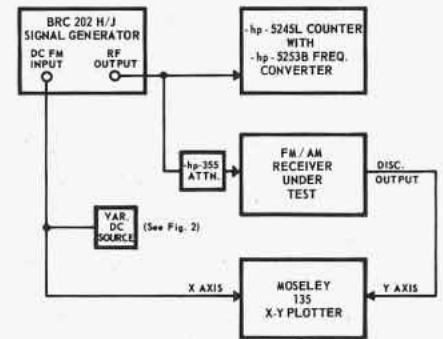
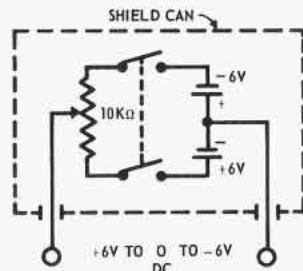
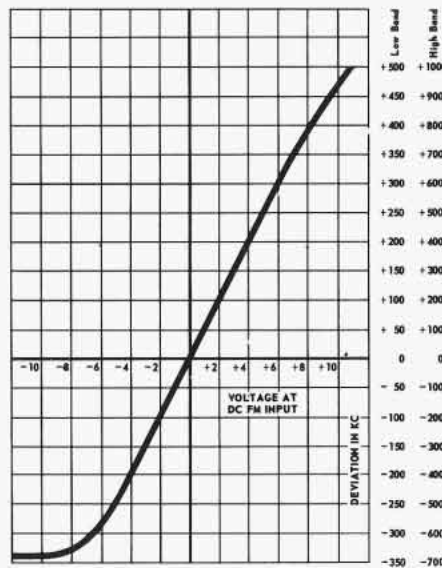
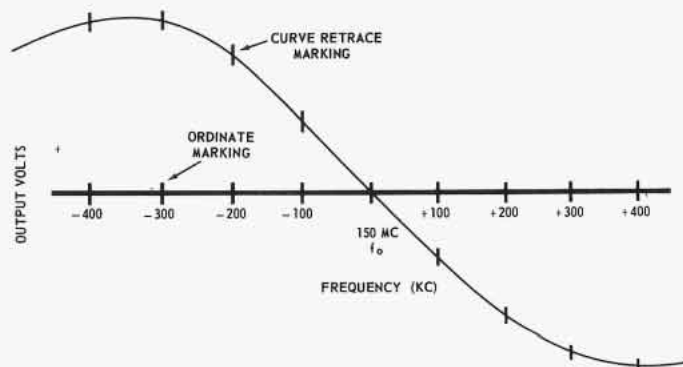

Figure 1. Setup for Checking Discriminator Output vs. Frequency
Figure 2. Variable DC Source Using Multi-turn Variable Potentiometer
Figure 3. DC FM Input Curve
Figure 4. Discriminator Output vs. Frequency Curve
The first tests to be discussed will be those tests which use a minimum of equipment; i.e., selectivity or bandwidth versus frequency and RF input level, and discriminator output versus frequency. If it is assumed that the receiver to be tested is in the range of the 202H and J, the connections and equipment are shown in Fig. 1. The Plotter may be a Moseley Type 2D, 135, etc. The Y axis input to the Plotter is connected to the AM detector, limiter grid, or discriminator output. The X axis input is connected to the variable dc source. The simplest form of variable dc is a multi-turn variable potentiometer of approximately 10,000 ohms and two 6-volt batteries connected as shown in Fig. 2. This supply will produce approximately 600 kc sweep on the
202H low band, and about 1200 kc on the 202H high band and the 202J. Reference to the dc FM input curve (Fig. 3) will indicate how to optimize this sweep if necessary. (A function generator, such as the -hp-202A, could be used in place of the dc source described above.) With the equipment connected as shown in Fig. 1, typical curves, such as those shown in Figs 4 and 5 can be plotted.
The horizontal X axis may be calibrated in a number of ways, depending upon the accuracy required and the equipment available. The curve in Fig. 3 could be plotted as a function of the X input sensitivity, as indicated by the calibration on the X amplifier controls. A much more precise method, however, utilizes a crystal calibrator or an -hp-5243L or 5245L counter with an -hp-5253B Converter plug-in. Fig. 1 shows the setup using the counter. Note that additional attenuators are necessary if continuous frequency monitoring is desirable. This enables the counter to operate at a reasonable level with the 202H and J. The Type 202JA has 50 mv available for continuous monitoring.
1. Retrace the curve with "pen up" and mark a vertical line at the desired frequency increments, using the Y axis "Zero" control and the "pen up/down" control. This procedure produces a trace marked as shown in Fig. 4.
ments with a vertical line, using the Y axis "Zero" control. This procedure produces a trace calibration as shown in Fig. 4.